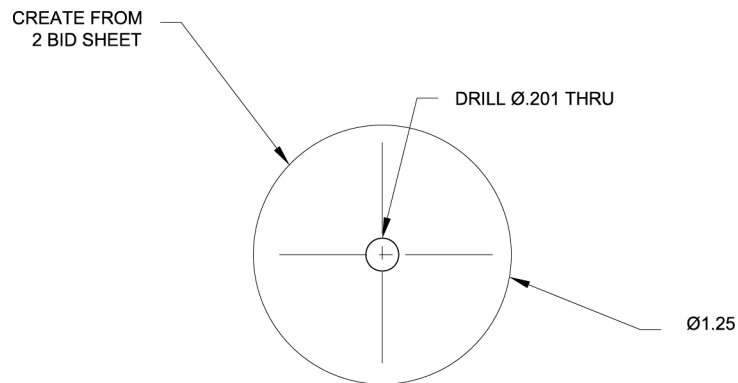

Figure B-14 2 BID Sheet Disk
- Fabricate two disks from 2 BID sheet to the dimensions shown in Figure B-14.